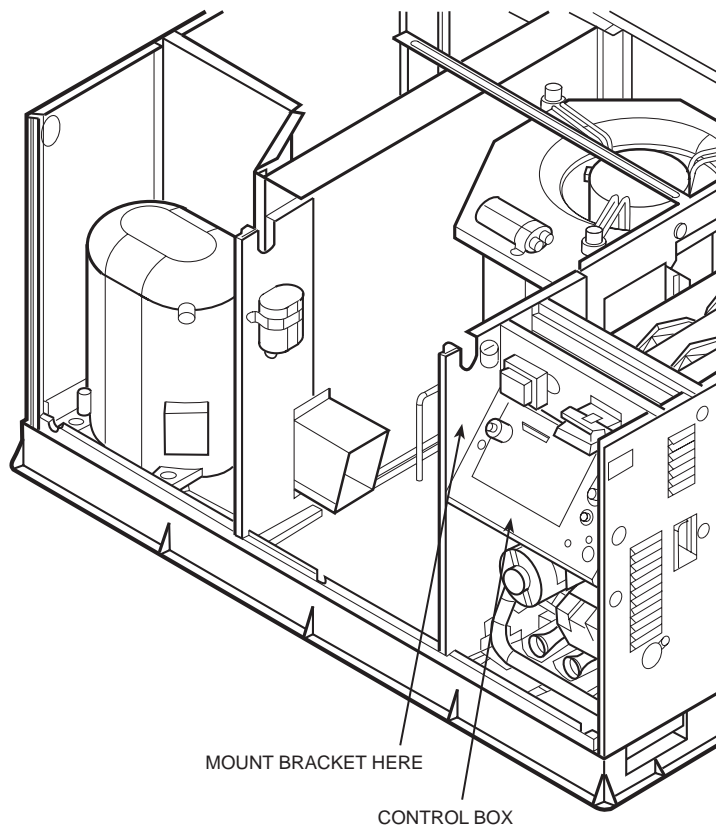

Fig. 1 — Thermistor Mounting Bracket Location (Gas Unit Shown)
3. Using the no. 6 screw provided in kit, attach the thermistor mounting bracket to the left side of the unit control box. See Fig. 1.